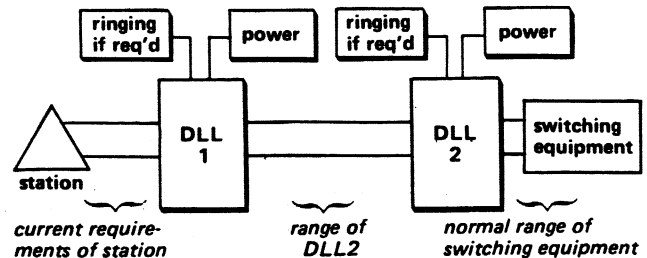

figure 4. Tandem DLL range limits
2.10 When the 7002(A) is operated in tandem with other DLL's (see figure 4), the maximum distance from the station to the nearest (first) DLL is determined by the current requirements of the sta-